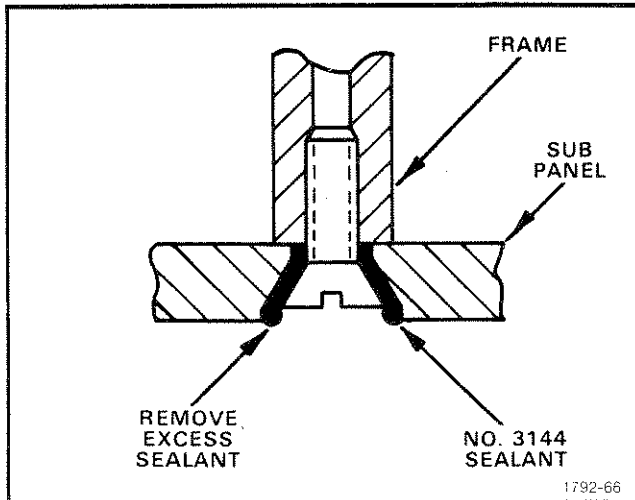

Fig. 5-12. Detail of Subpanel screwhole sealing.
**12. Attach Subpanel to the three Frame Sections (see Fig. 5-12)**
1. Fill the countersunk screw holes on the Subpanel with No. 3144 sealant. See Fig. 5-12.